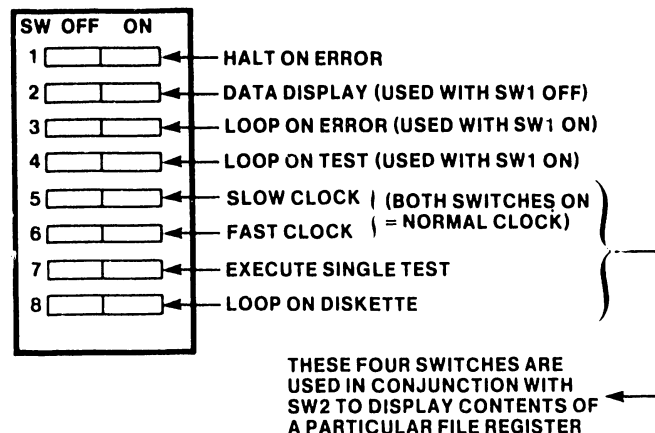

Figure 8-2. Diagnostic Monitor Switch
3. Set switch SW1 on the Maintenance Panel Monitor Diagnostic switch (figure 8-2) to the OFF position, all other switches ON.
7. Place the Step/Run switch to Run position and press the Step button. This causes the diagnostic program to begin executing. The program will halt at Instruction Counter (IC) location XXXX (halt may not be consistent). There are some exceptions, such as TEST5000 - Visual Verification Test - which stops at location 0020. Refer to table 8-1 for known good IC halts.
1. While a Level 3 or higher diagnostic test is halted at Location 0000, set switches 5 and 6 (figure 8-2) to regulate the System Clock for either slow, fast, or normal cycle time. If an intermittent CPU problem exists, the Slow/Fast diagnostic clocks may be used for troubleshooting. However, the Slow/Fast clocks must not be used to enhance system performance.